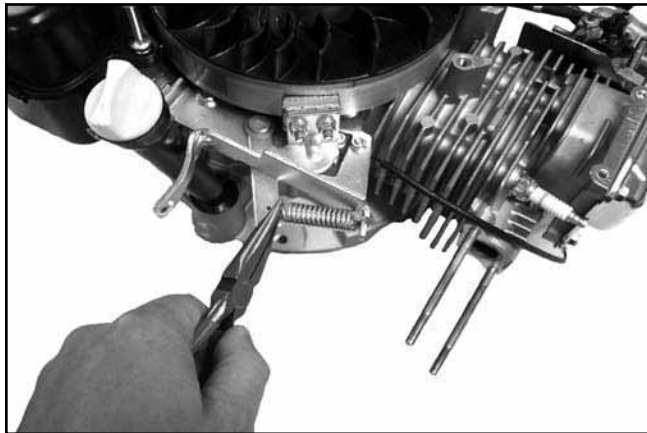

Figure 8-27. Disconnecting Flywheel Brake Spring.
1. Grasp one end of the flywheel break spring with a pliers and stretch it to disconnect it. See Figure 8-27.